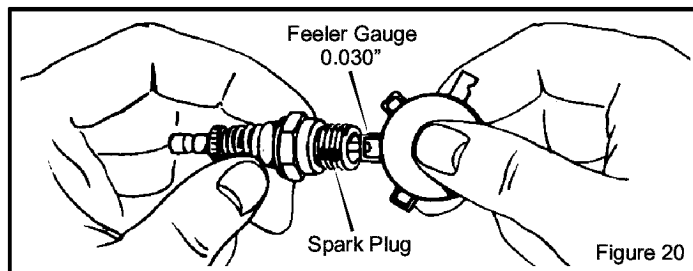

Figure 20
1. Check the gap of the **spark plug** with a **feeler gauge** (Figure 20). The correct gap is **0.030"**.